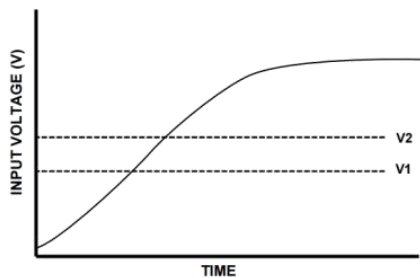
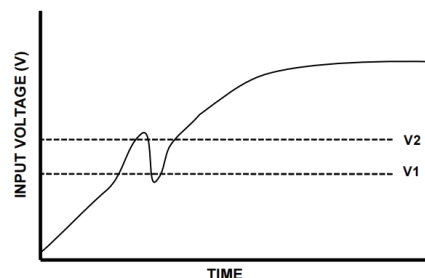

Figure 3-9 Monotonic power supply
Figure 3-10 Non-monotonic power supply
The iSMK must use the monotonic power supply shown in Figure 3-9 when powering on. If the non-monotonic power supply shown in Figure 3-10 is used, when the deviation is close to any threshold voltage, the non-monotonic slope may cause problems such as abnormal start of the driver, resulting in an error failure.
- In figure 3-9 and figure 3-10, V1 indicates 10V voltage, and V2 indicates 17V voltage.